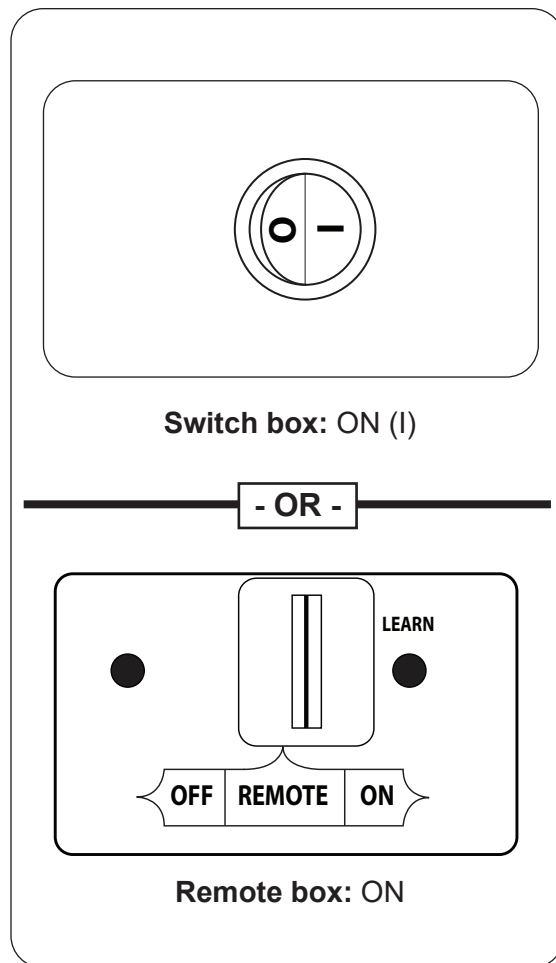

Fig. 13-1 Manual lighting
1. **Switch Box Models:** Locate the ON/OFF switch at the front of the switch box. Press the switch to the **ON (I)** position. See Fig. 13-1.
**Remote Box Models:** Locate the 3-position switch on the remote receiver (see Fig. 13-1), and slide the switch to the **ON** position.